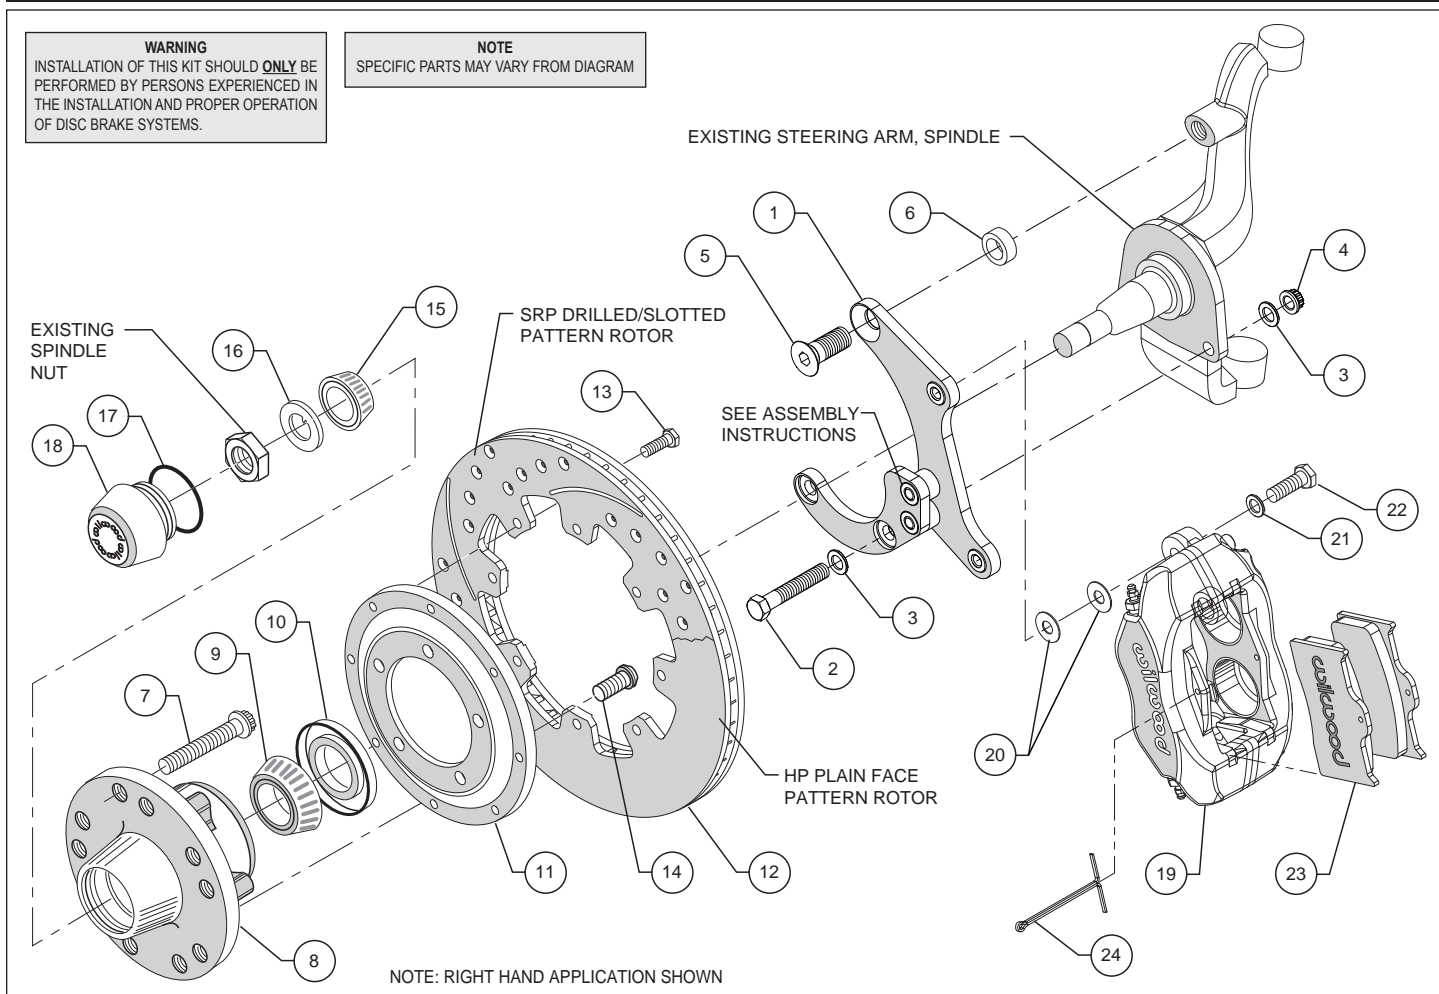
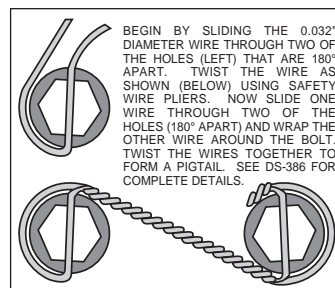
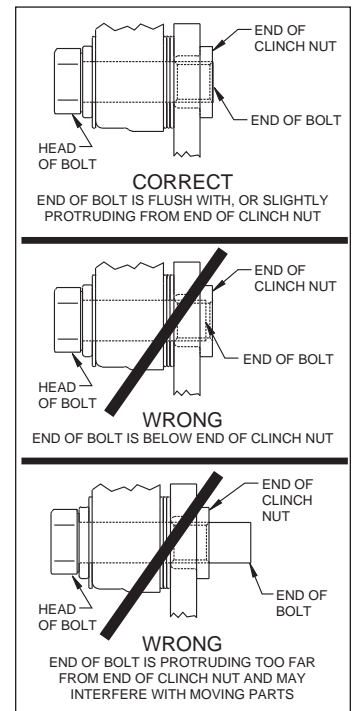

Figure 1. Typical Installation Configuration
Figure 3. Safety Wire Diagram
Figure 4. Clinch Nut Engagement Diagram
Assembly Instructions (numbers in parenthesis refer to the parts list and Figure 1 on the preceding pages): **CAUTION:** All mounting bolts must fully engage clinch nuts. Be sure to check that all bolts are either flush or protruding through flanged side of clinch nut after shimming, Figure 4.
- The caliper mounting bracket (1) has been assembled at the factory for alignment purposes. Loosen the two bolts that secure the brackets together so that the bolts are hand tight only, this will enable the bracket assembly to be adjusted to accommodate various spindle tolerances during assembly. Align bracket with the two lower holes on the spindle face and attach using bolts (2), washers (3), and secure using lock nuts (4), as shown in Figure 1 and Photo 1. Install bolt (5) through top of bracket while placing spacer (6) between bracket and spindle, Figure 1. Temporarily tighten the mounting bolts. Ensure that the flanged heads of the clinch nuts in the bracket are facing outboard, Photo 1. **NOTE:** The bracket must fit squarely against the mounting points on the spindle. Inspect for interference from casting irregularities, machining ridges, burrs, etc. Remove lower bolts one at a time, apply red *Loctite*® 271 to the threads, and torque nuts to 47 ft-lb. Remove the upper bolt, apply red *Loctite*® 271 to threads, and torque to 140 ft-lb. Remove one at a time the bolts that secure the bracket assembly to each other, apply red *Loctite*® 271 to the threads and torque to 40 ft-lb.
- Pack the large inner bearing cone (9) with high temperature disc brake bearing grease (available from your local auto parts store) and install into the backside of the hub (8), Photo 3.
- Install the grease seal (10) by pressing into the backside of the hub (8), flush with the end of the hub, Photo 3.
- Orient the rotor (12) and the rotor adapter (11) as shown in Figure 1 and Photo 4. Attach the rotor to the adapter using bolts (13). Using an alternating sequence, apply red *Loctite*® 271 to the threads, and torque to 180 in-lb. Safety wire bolts (13) using standard 0.032 inch diameter stainless steel safety wire as shown in Figure 3. Refer to Wilwood's data sheet DS-386 (available at www.wilwood.com/pdf/ds386.pdf) for complete safety wire installation instructions.
- Mount the adapter/rotor assembly (11/12) to the hub (8) using bolts (14), as shown in Figure 1 and Photo 5. Using an alternating sequence, apply red *Loctite*® 271 to the threads, and torque to 55 ft-lb. Safety wire bolts, as shown in Figure 3.
- Pack the small outer bearing cone (15) with high temperature disc brake bearing grease and install into hub (8). Slide the hub/rotor assembly onto the spindle. Secure using spindle washer (16) and OEM spindle nut, Photo 6. Adjust bearings by tightening the wheel bearing nut to 60 **in-lbs.** while turning the hub/rotor assembly (11/12). Install saved OEM nut lock (if any) on the wheel bearing nut with one pair of slots in-line with (covering) the cotter pin hole. Back off the adjusting nut lock assembly (or castle nut) one slot and install a new cotter pin (not supplied). **The resulting adjustment should be zero (no pre-load to 0.003 inch end play).**
- Screw dust cap (18) into hub (8), Photo 7. Friction created by the o-ring (17) on the dust cap keeps it from unscrewing. **NOTE:** The O.D. of the existing OEM spindle washer may be larger than the I.D. of the dust cap not allowing it to seat against the hub face. Therefore, use the spindle washer (16) supplied with the kit instead of the OEM washer.
- NOTE:** Please reference the caution statement at the beginning of the assembly instructions. Mount the caliper (19) onto the caliper mounting bracket (1) using bolts (22) and washers (21), as shown in Figure 1. Initially place two .032" thick shims (20) on each bolt between the caliper and the bracket, Photo 8. Temporarily tighten the mounting bolts and view the rotor (12) through the top opening of the caliper. The rotor should be centered in the caliper, Photo 9. If not, adjust by adding or subtracting shims between the bracket and the caliper. Always use the same amount of shims on each of the two mounting bolts. **NOTE:** The end of each bolt must be flush with or slightly protruding from the head of the clinch nut, as shown in Figure 4. If necessary place spare shims between washer (21) and caliper mounting ear to achieve the proper clinch nut engagement. Once the caliper alignment and clinch nut engagement are correct, remove the bolts one at a time, apply red *Loctite*® 271 to bolt threads, and torque to 40 ft-lb. Safety wire the bolts as shown in Figure 3.
- Install the disc brake pads (23) into the caliper, with the friction material facing the rotor (12), and secure in place using cotter pin (24), Photo 10.